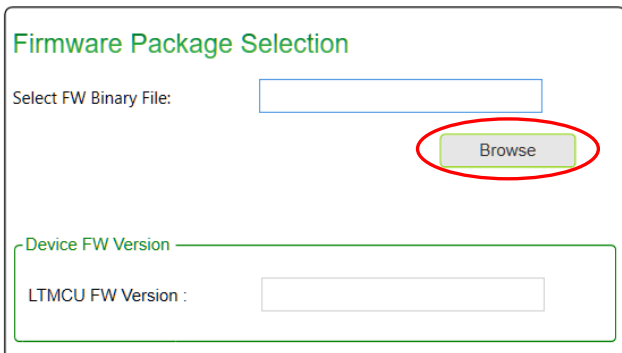

Figure 26
3. In the “Firmware Package Selection” field, click on the “Browse” button, Figure 26, and navigate to the unzipped LTMCU firmware file, Figure 27, that will be put onto the device. The FW version will populate in the “LTMCU FW Version:” field, Figure 28.